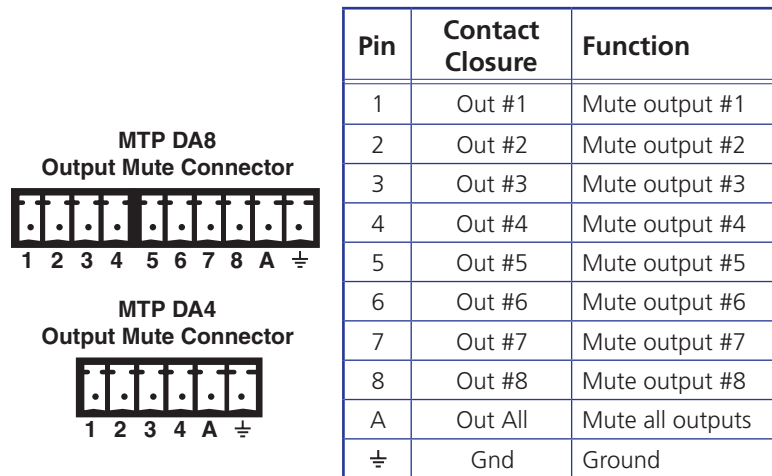

Figure 4. Mute Connector and Pinout
④ **Output Mute connections** — The Output Mute connector provides a way to mute (blank) any or all TP outputs. Each numbered pin of the captive screw connector is assigned to one of the DA outputs. Pin A is assigned to all DA outputs (see figure 4). When you short and latch a numbered pin or pins to ground, the DA mutes the associated outputs.